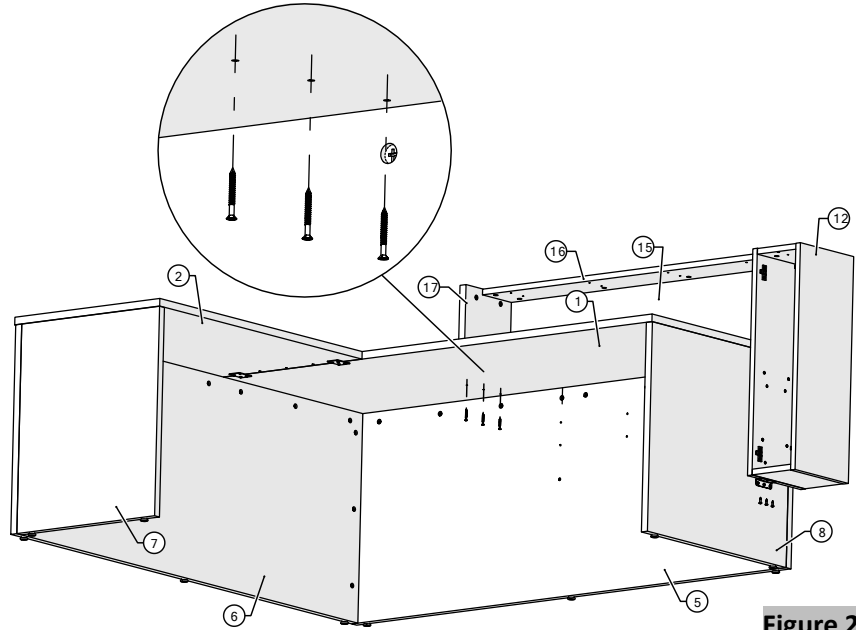

Figure 25
- 31.** Securely fasten the countertop gable to the worksurface using #8 x 1-1/2" Flat Head Screws (Figure 25).